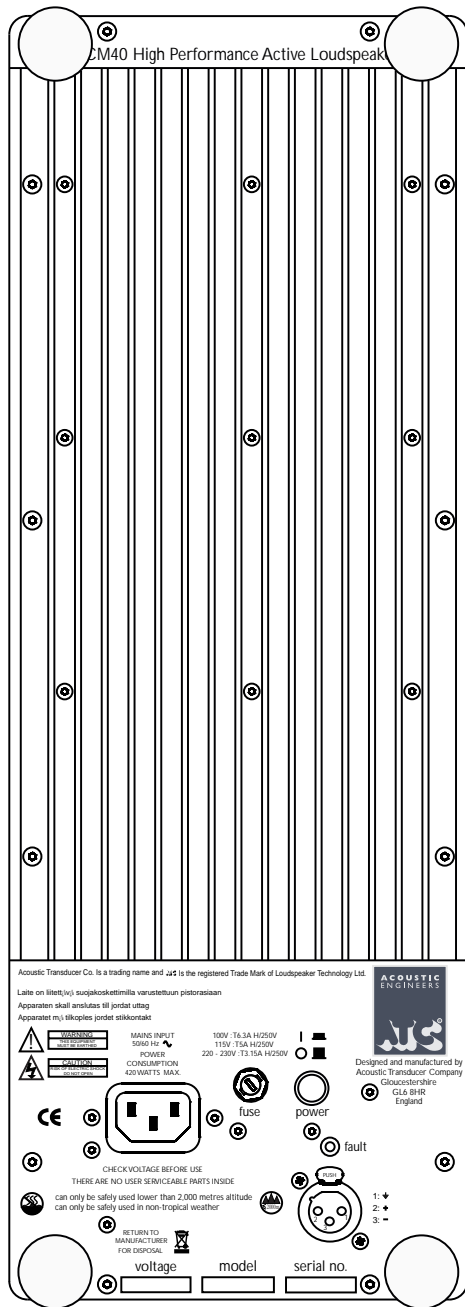

Fig. 7 SCM40A Connection and Control Panel
**Figs 7 and 8** illustrate the connection and control panel for the amplifiers used in the active SCM40A and 19A monitors. Each feature is described below: